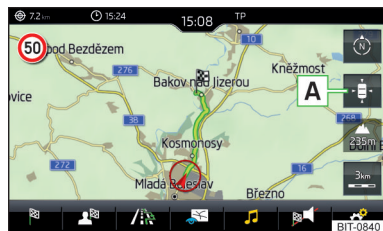

Fig. 198
- ▶ To **centre the map**, tap on function surface  **A** » Fig. 198.